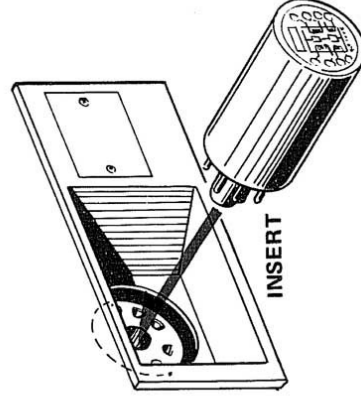

Fig. 4
- With a moving magnet (MM) cartridge, connect the output leads of the turntable to the PHONO 1 MAG terminals. The upper terminal is for the left channel, the lower terminal for the right channel.
- With a moving coil (MC) cartridge, connect the output leads of the turntable to the PHONO 2 terminals. Connect in the same way as for the PHONO 1 MAG terminals.
1. When using a turntable with an MC cartridge, be sure to insert the separately available PHONO INPUT TRANSFORMER (Pioneer PP-402) into the socket at the upper left of the rear panel of the SA-800 (Fig. 4).